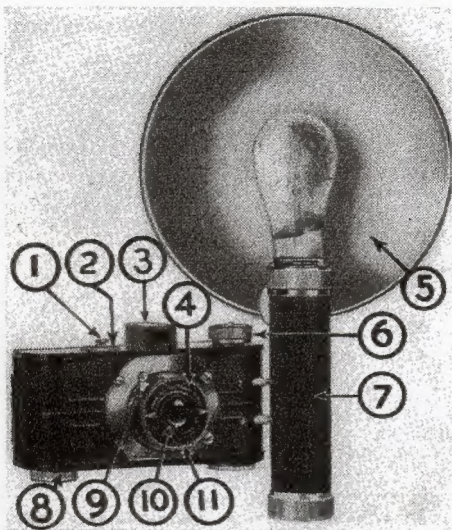

Figure 1
Photoflash photography is easy if a few simple rules are followed. Notice that flash reflector (5) and battery case (7) are mounted on camera as in Figure 1. Case and reflector are easily removed for all ordinary snapshots.